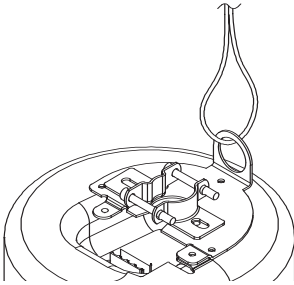

Figure 18: Attach auxiliary support line
Step 6: Connect an Auxiliary Support Line (Figure 18)